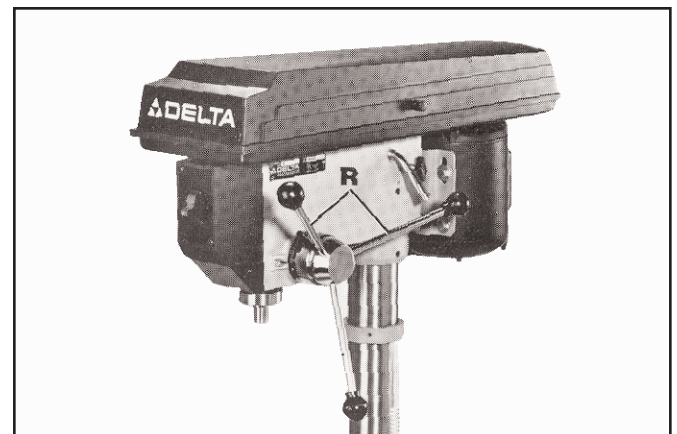

Fig. 10
10. Thread the three pinion shaft handles (R) Fig. 10, into the three tapped holes located in the pinion shaft hub, as shown.